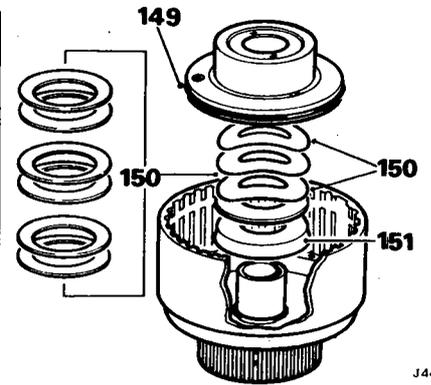

Fig. 49
- 149. Smear the new 'O' ring with petroleum jelly and fit to the piston (Fig. 49).
- 150. Position the Belleville and plain washers in the piston (Fig. 49), retain the washers with a smear of petroleum jelly.
- 151. Soak the new oil seal in clean transmission fluid and insert in the piston (Fig. 49).